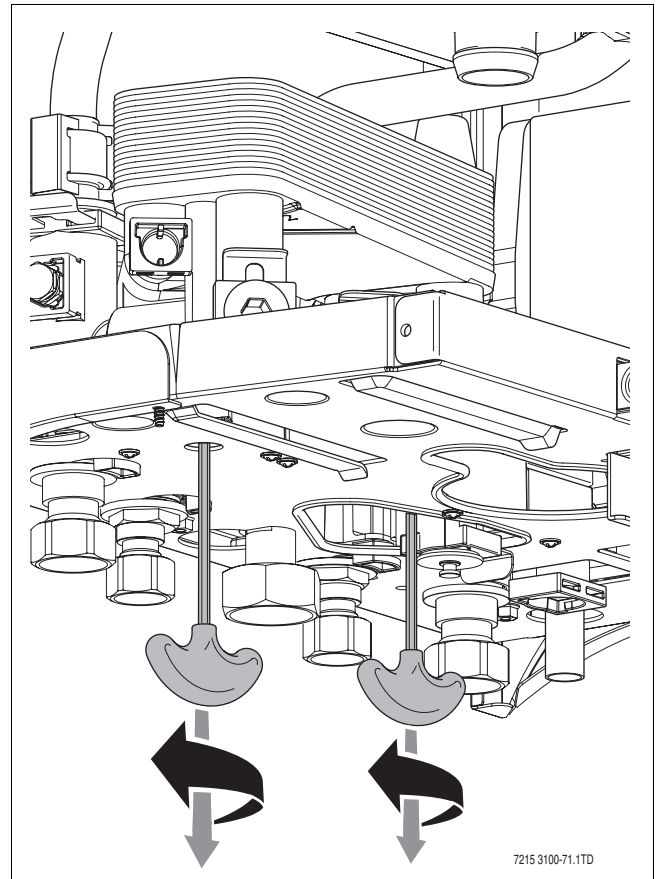

Fig. 76 Remove screws of plate heat exchanger
- Remove the two screws of the plate heat exchanger (→ fig. 76).